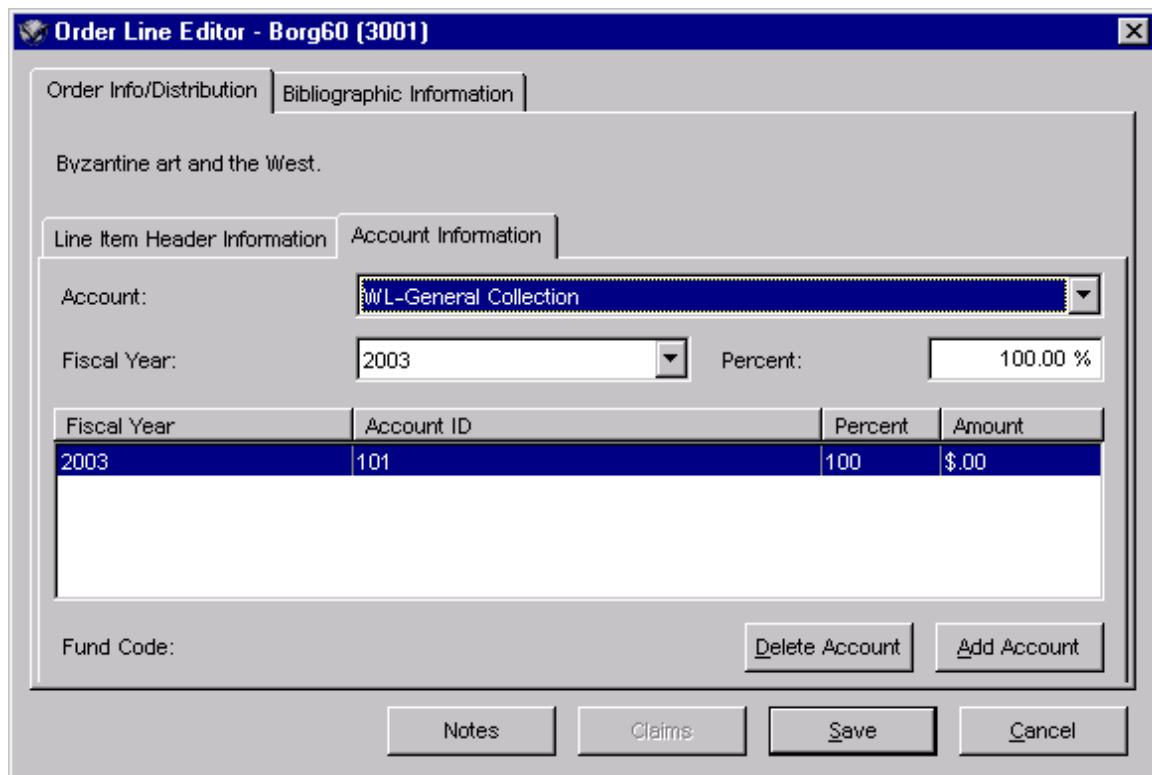

Figure 2-20. Order Line Editor – Account Information Tab
1. On the Order Info/Distribution tab in the Order Line Editor, click the Account Information sub-tab (Figure 2-20).